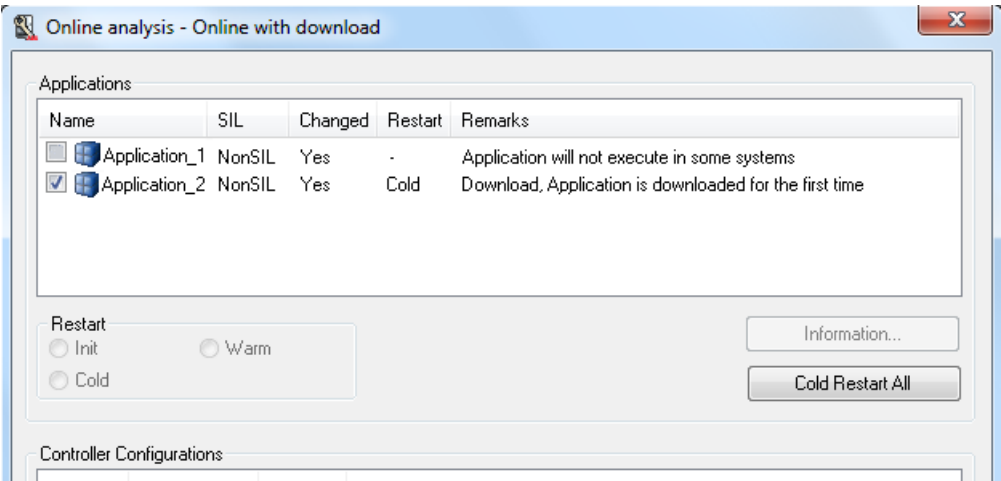

Figure 68. Connected applications to a controller. Only Application 2 will be downloaded.
- 2. Select the application to be downloaded. See the example in Figure 68.